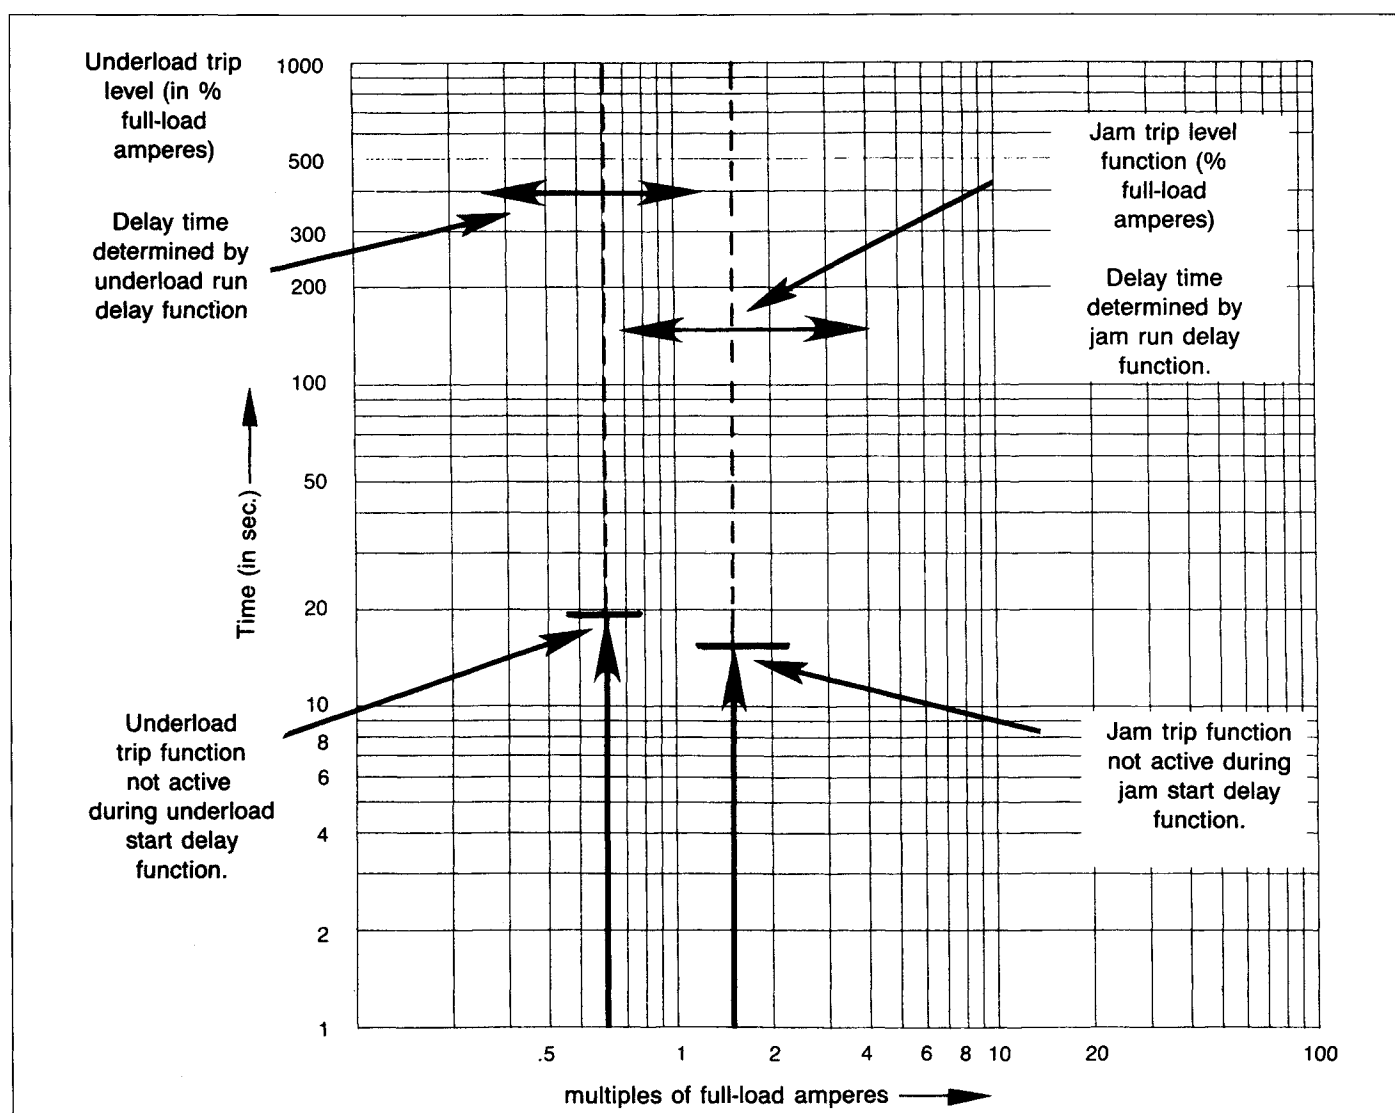

Fig. 7.3 Jam Protection Curve
7.1.3.5 Jam Functions — Once the motor is running, if the monitored current level exceeds the set point entered for the jam trip level (item 23), a trip occurs. (See Figure 7.3 in which the jam trip set point is 180% of full-load current.) An alarm level can also be programmed for jam (item 22).